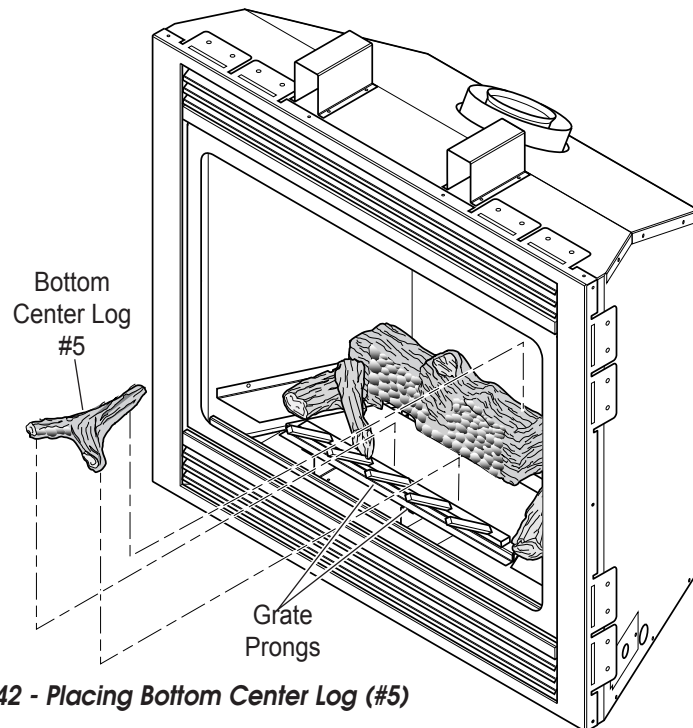

Figure 42 - Placing Bottom Center Log (#5)
5. Place back end of bottom center log (#5) on right notch of rear log. Rest front “Y” shape on burner as shown in Figure 42.